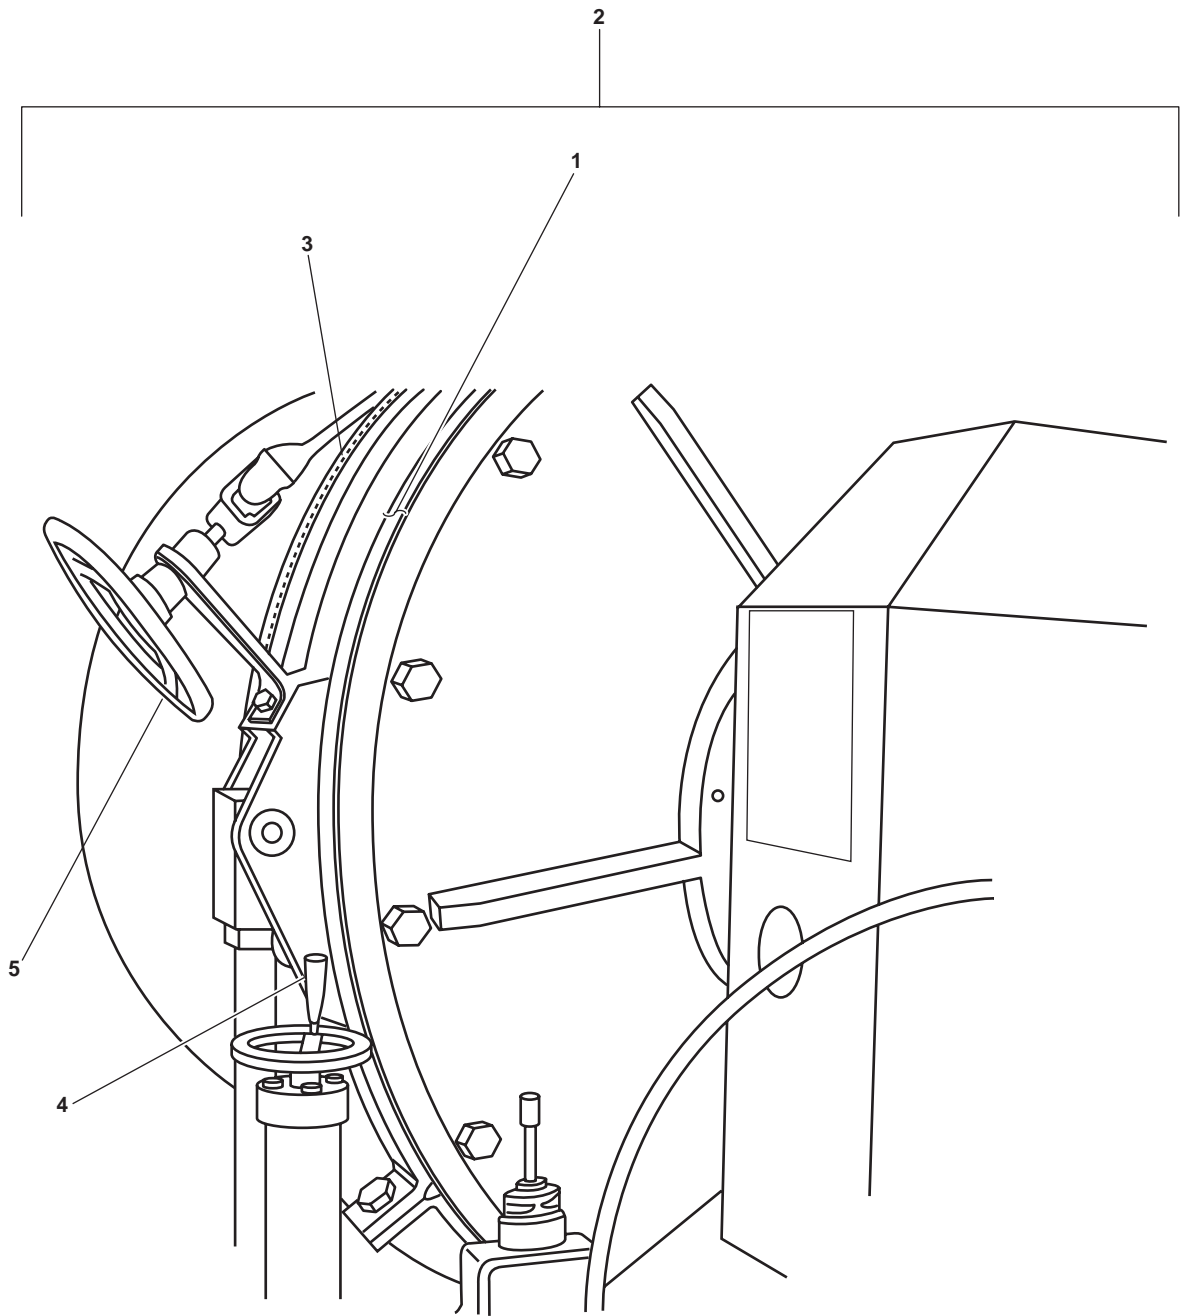
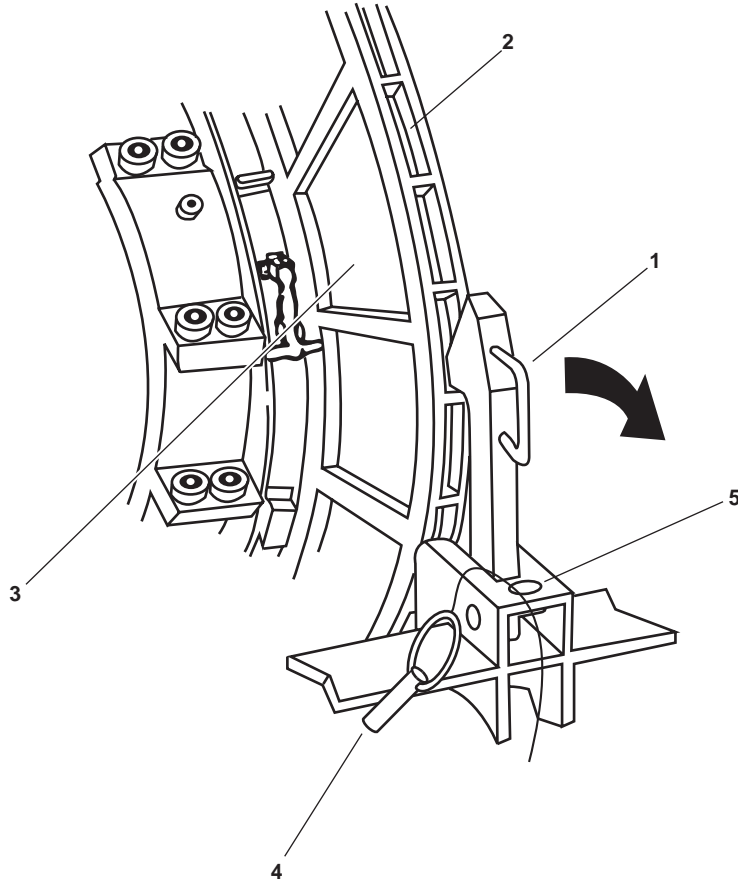
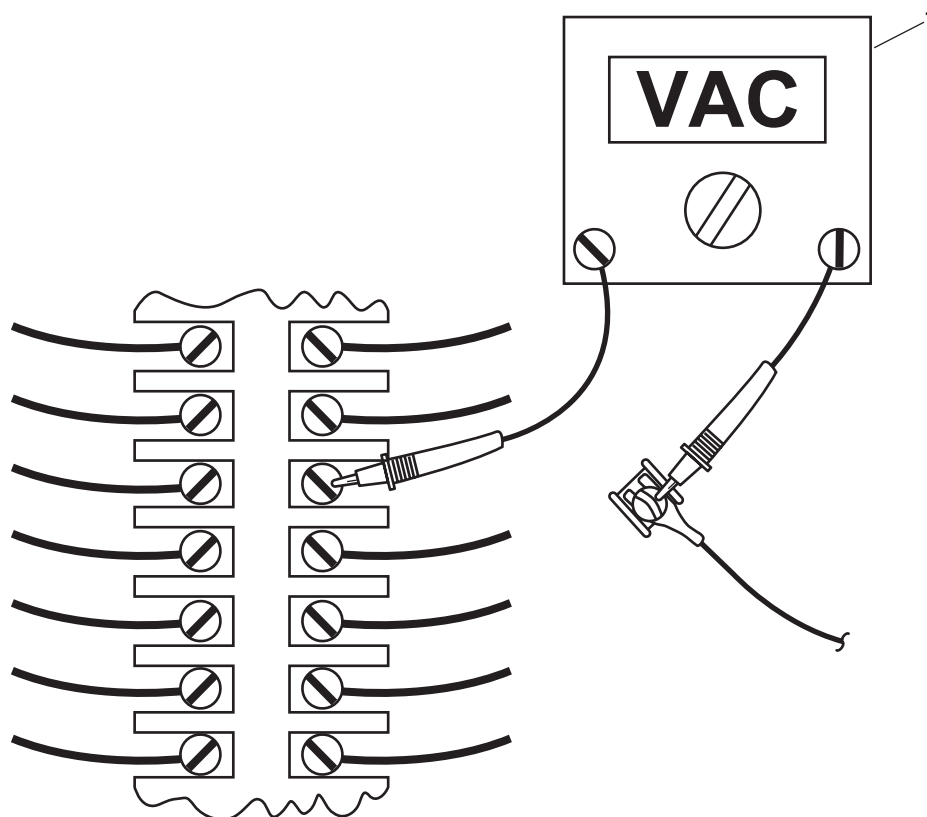

Figure 3. Towing Machine
Figure 4. Mechanical Dog
Figure 5. Proximity Switch Voltage Check
1. Verify that the clutch brake (figure 3, item 1) on the towing machine (figure 3, item 2) is tight.
2. Loosen the auxiliary brake (figure 3, item 3) by turning the auxiliary brake hand wheel (figure 3, item 4).
3. Disengage the mechanical dog (figure 4, item 1) from the ratchet teeth (figure 4, item 2) on the towing machine drum (figure 4, item 3) by pulling the mechanical dog away from the towing machine drum.
4. Secure the mechanical dog (figure 4, item 1) in the disengaged position by inserting the quick release pin (figure 4, item 4) in the retaining hole (figure 4, item 5).
5. Loosen the clutch brake (figure 3, item 1) by turning the clutch brake hand wheel (figure 3, item 5). The towing machine drum (figure 4, item 3) will now rotate freely.
10. Set the multimeter to measure Vac and connect it as shown in figure 5.
13. While one crewmember rotates the towing machine drum (figure 4, item 3), another crewmember must check for a complete circuit using the multimeter (figure 5, item 1). A complete circuit will be indicated when the multimeter reads approximately 115 Vac.
18. Tighten the clutch brake (figure 3, item 1) and the auxiliary brake (figure 3, item 3) on the towing machine (figure 3, item 2).
19. Remove the quick release pin (figure 4, item 4) from the retaining hole (figure 4, item 5) and position the mechanical dog (figure 4, item 1) in the engaged position by inserting it in the ratchet teeth (figure 4, item 2) of the towing machine drum (figure 4, item 3).
2. Verify that the auxiliary brake (figure 3, item 3) is tight.
4. Do not secure the mechanical dog (figure 4, item 1) in place with the quick release pin (figure 4, item 4).